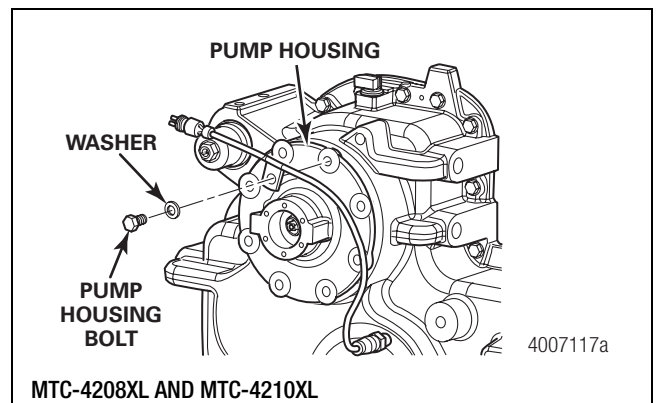

Figure 6.41
5. Install the pump housing and align with the transfer case alignment dowels. Tap the cover into place with a mallet. Figure 6.41.